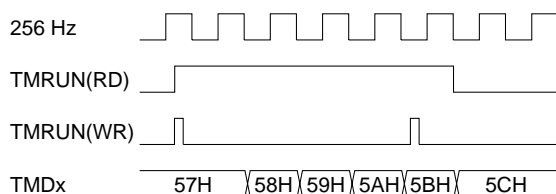

Fig. 5.9.4.1 Timing chart of RUN/STOP control
- (1) The clock timer is actually made to RUN/STOP in synchronization with the falling edge of the 256 Hz signal after writing to the TMRUN register. Consequently, when "0" is written to the TMRUN, the timer shifts to STOP status when the counter is incremented "1". The TMRUN maintains "1" for reading until the timer actually shifts to STOP status. Figure 5.9.4.1 shows the timing chart of the RUN/STOP control.